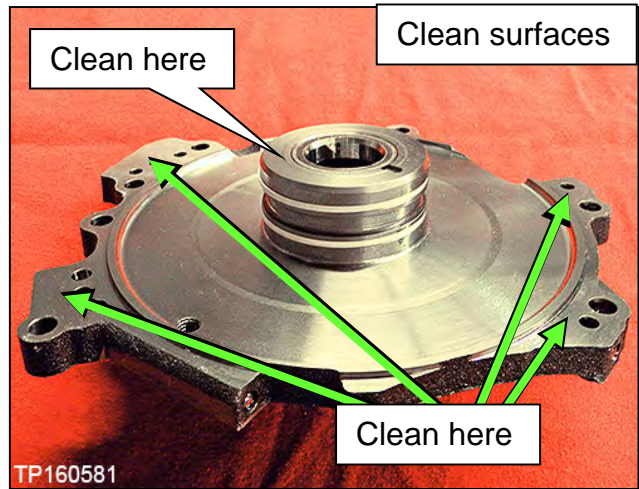

Figure 127
- Clean the dummy cover surfaces that contact the CVT case and thrust bearing (Figure 127).